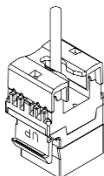

Fig. 4
- 6.) Finish installation by routing cable as shown on Fig. 4